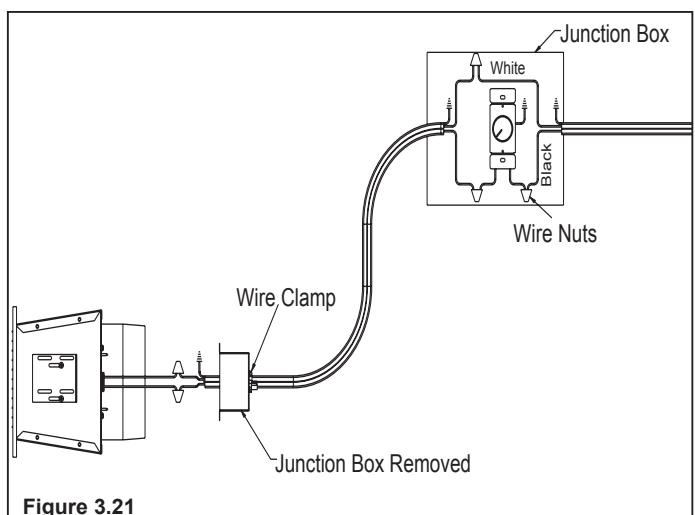

Figure 3.21
- Remove the junction box. Wire 110 VAC service TO the wall rheostat and FROM the wall rheostat to the fan junction box. Use wire nuts to secure the 110 VAC service wires to the hot (black) and neutral (white) fan wires and screw the 110 VAC ground wire to the junction box. See Figure 3.21.